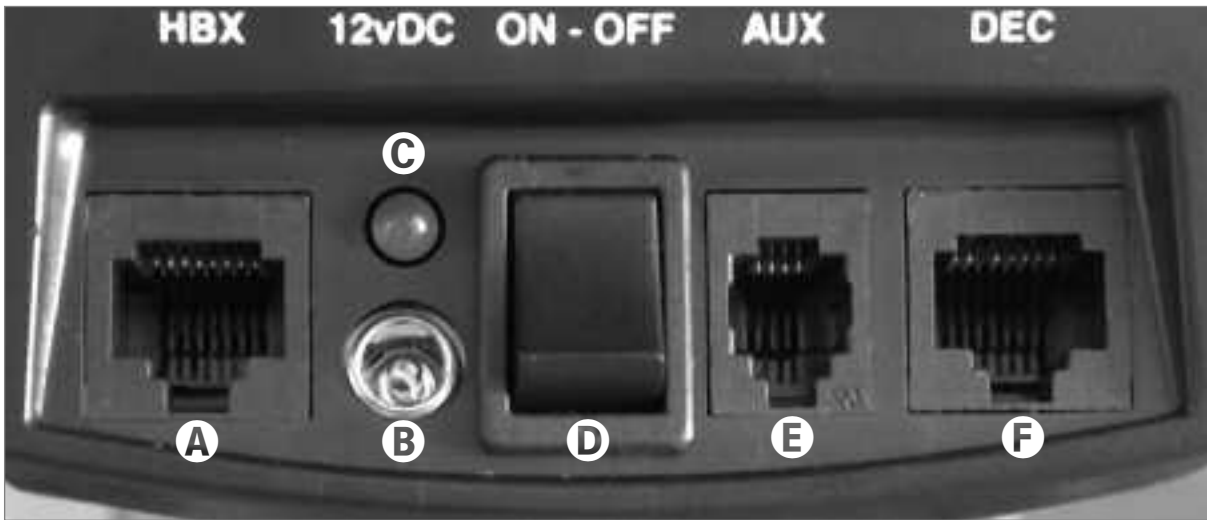

Fig. 1e: The LX75-Series Computer Control Panel (see 24 above).
- 24 **Computer Control Panel (see Fig. 1e):**
- 38 **Variable Height Tripod Legs (3):** Supports the telescope mount. The mount attaches to the top of the tripod.
- 41 **Battery Pack and holder (see Fig. 1f):** Plug into the 12v DC power connector (B, Fig. 1e) of the computer control panel. Insert 8 (user-supplied) D-cell batteries to power motor drives and Autostar handbox.